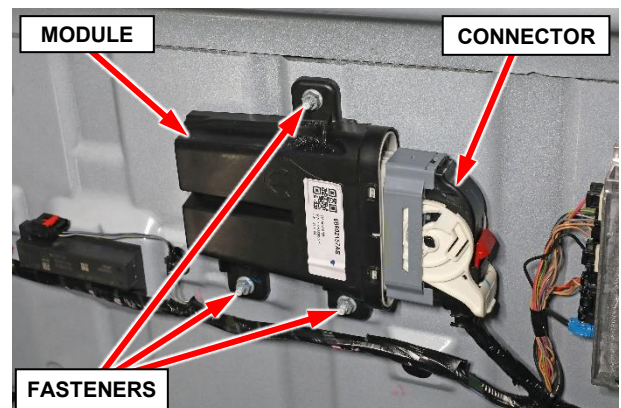

Figure 10 – Trailer Tow Module
11. Disconnect the wire harness connector from the trailer tow module (Figure 10).
12. Remove the fasteners from the trailer tow module (Figure 10).
13. Remove the trailer tow module from the vehicle (Figure 10).
16. Install the **NEW** trailer tow module to the vehicle and tighten the three fastener nuts securely (Figure 10).
17. Connect the wire harness connector to the trailer tow module (Figure 10).